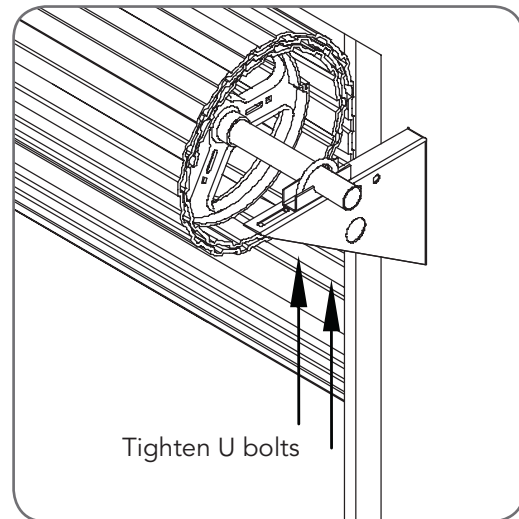

Fig 7.1
- a. At the end opposite to where the opener will be fitted, check that the door axle is tightened to the bracket securely. **(Fig. 7.1)**